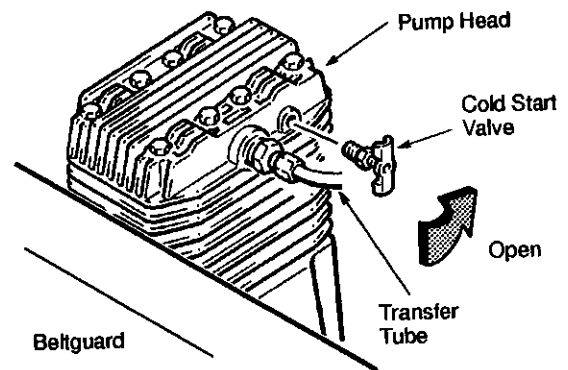

Figure 6. Cold Start Valve
1. Open the cold start valve completely by turning it counter-clockwise. See Figure 6.